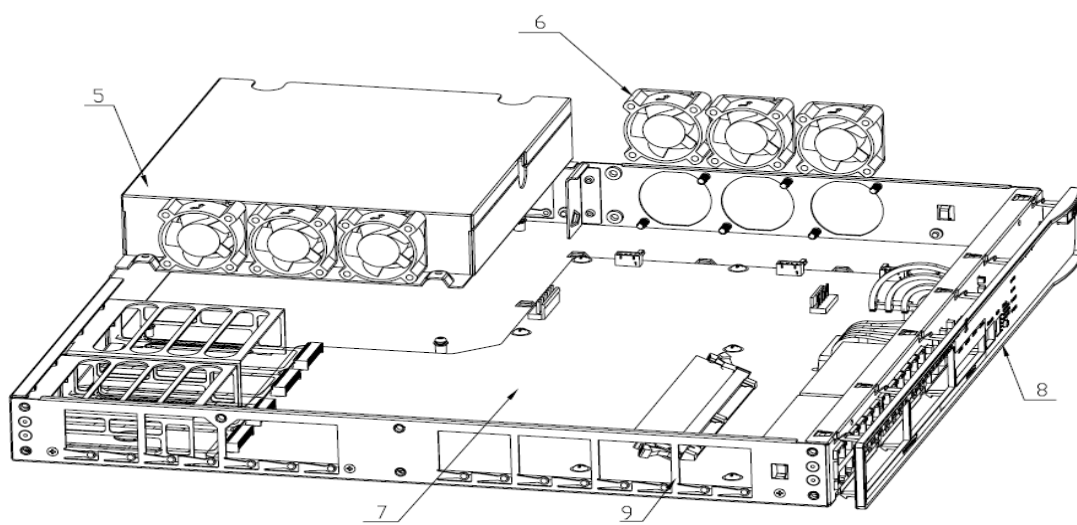

Figure 4 Treatments to the product (remove cover)
4. Unscrew the screws on cover 4, and then remove cover 4 according to figure 4.